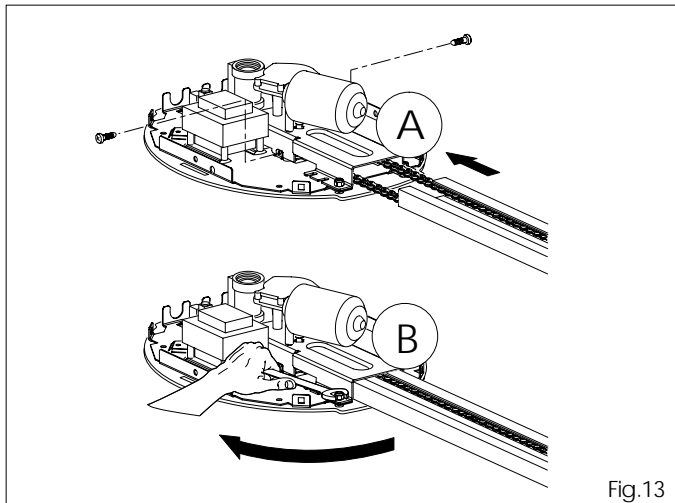

Fig.13
5.8 Locate the drive unit on the support, securing it with appropriate self-tapping screws (Fig.13 ref.A). Fit the longitudinal member as in figure 13 (ref.A) to its stop point.
5.9 Tighten the drive unit with the appropriate wrench (fig. 13 ref.B).